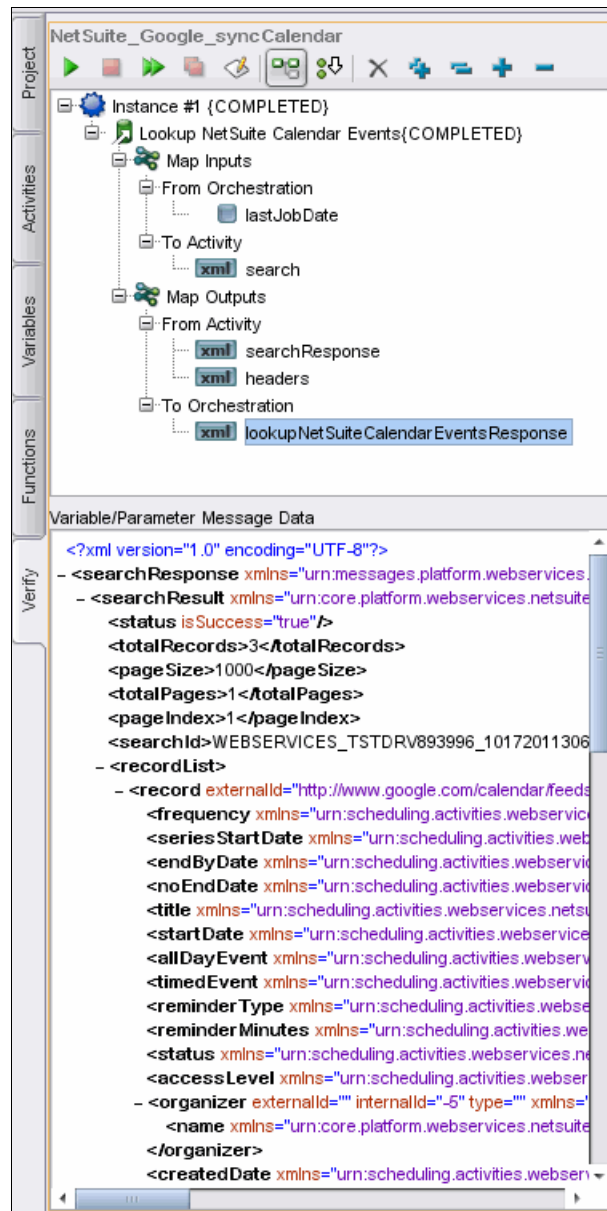

Figure 11-27 Studio Verify showing data for a variable
4. Click the last entry, **lookupNetSuiteCalendarEventsResponse**. In the Variable/Parameter Message Data pane at the bottom, you can now see the data retrieved from NetSuite as an XML document. Refer to Figure 11-27.